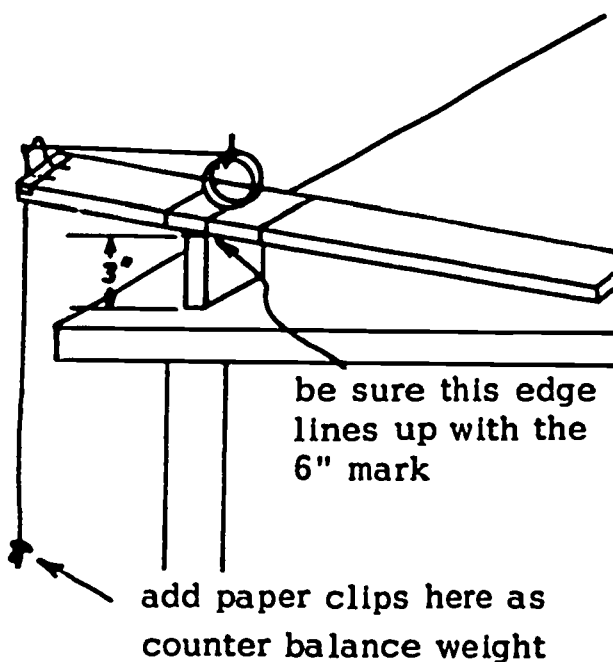

Fig. 14B-7. Roadway Test Assembly
7. Press lightly on the low end of the board to keep it from moving. Carefully slide the block to the 3% grade mark. See Fig. 14B-6. Watch the indicator. It should move slightly counterclockwise. Tap on the board lightly.